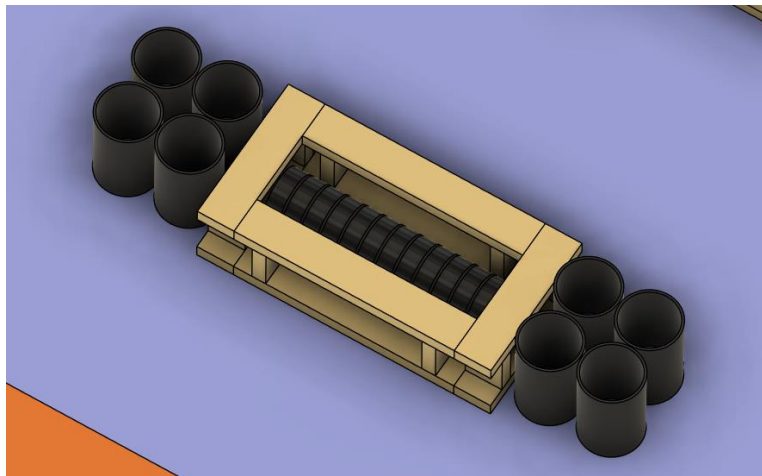

Figure 5: Fences, Bulls, and Barrels Starting Location
4.2.1.5. There are twelve (12) bulls surrounded by the fences located between the starting zone and the lasso platform, as shown in Figure 5.